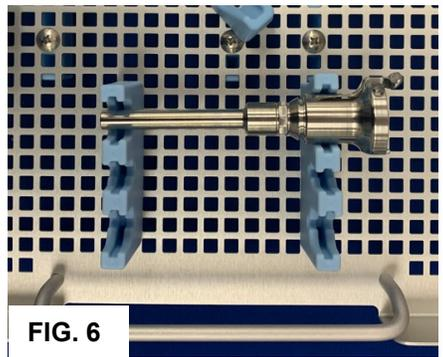

FIG. 6
1. Confirm that all instruments are present. If using a sterilization pouch, place each instrument in its own individual pouch. If using a sterilization tray, read the sterilization tray instructions for use before proceeding. Ensure that the sterilization tray has been cleaned according to the sterilization tray instructions for use and load device into the tray. See FIG. 6 for placement of components in tray.